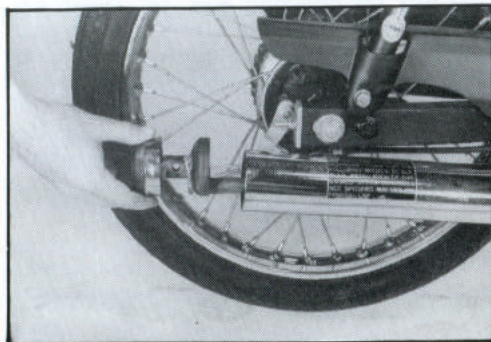

Fig. 19
- 2) Using a hook (Fig. 19), pull out the silencer;